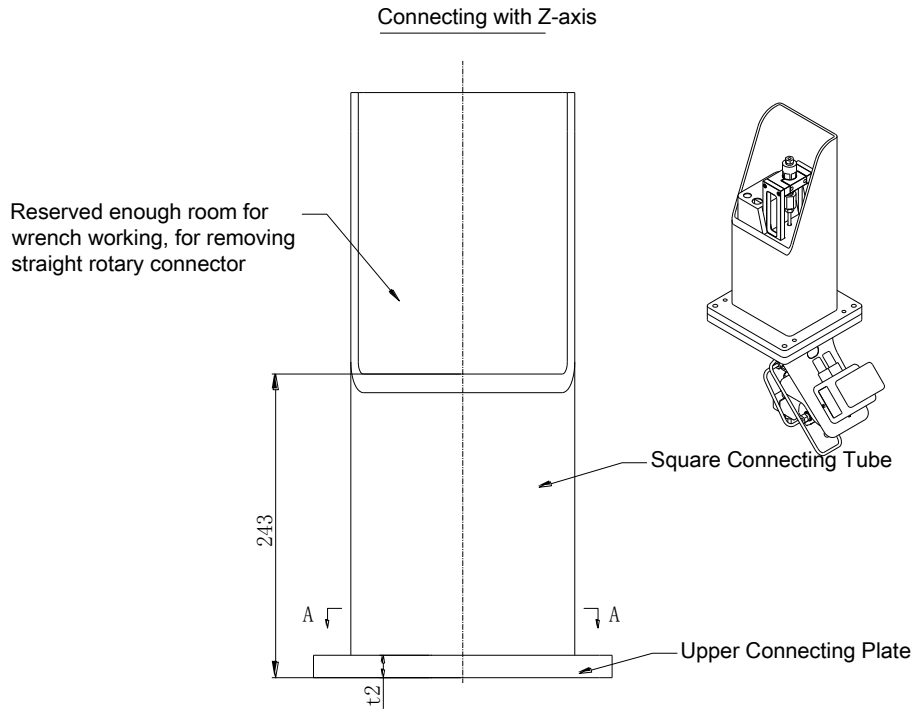

Figure 1
- 1) As shown in figure 1, enough room should be reserved on the front or side for wrench working, in order to remove through-type high pressure rotary connector.
- 2) As shown in Fig. 2-3, figure 1 on the upper part shows the recommended connecting method. Note that dimension of upper connecting plate in figure 1 must be in line with that offered in figure 2, while net size of the square connecting tube should be larger than the size of rectangle (165mm*135mm) in figure 2. "t1=6mm, t2=18mm" is recommended.